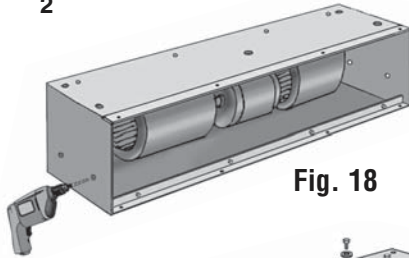

Fig. 18
3. Drill all four (4) holes using a $\frac{3}{8}$ " drill bit. (**See Fig. 18**)